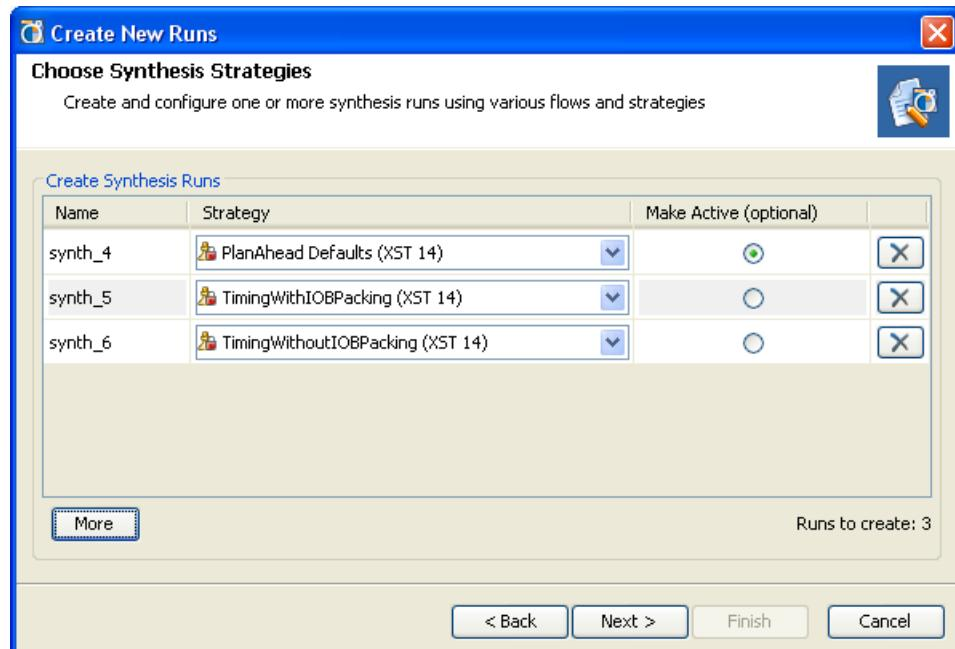

Figure 6-3: Choose Synthesis Strategies
The **Choose Synthesis Strategies** dialog box opens, as shown in Figure 6-3, page 213.
9. Click the **More** button to define additional runs. Specify names and strategies for the added runs as shown in Figure 6-3, page 213.